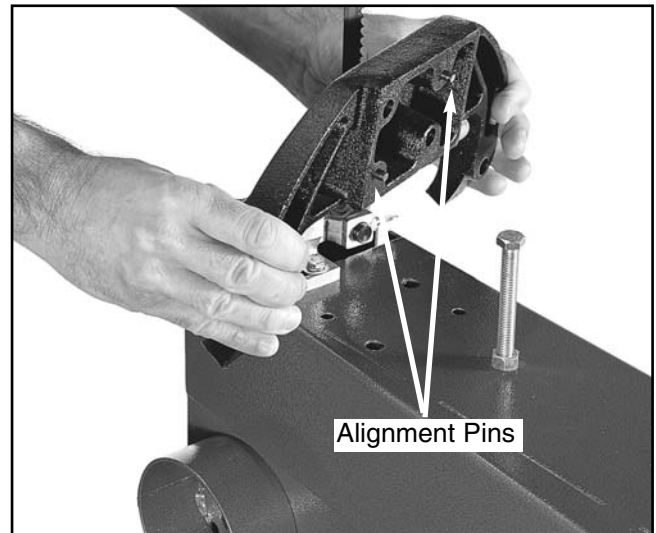

Figure 2. Alignment pins on bracket support.
1. Remove the two trunnion support bracket mounting bolts from the bandsaw body. Note the two alignment holes shown in **Figure 2**.